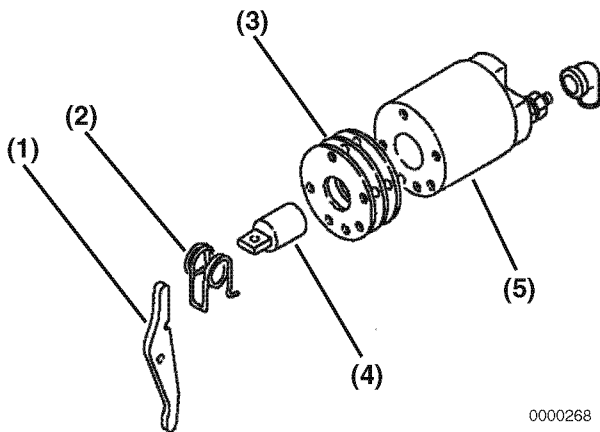

Figure 10-30
4. Apply NFC-F6A grease to the sliding portions of the shift lever (**Figure 10-30, (1)**). Assemble the torsion spring (**Figure 10-30, (2)**), shift lever and dust cover(s) (**Figure 10-30, (3)**), plunger (**Figure 10-30, (4)**) and magnetic switch assembly (**Figure 10-30, (5)**).